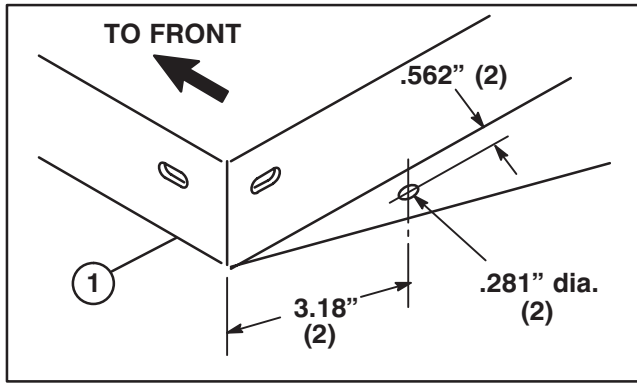

Figure 9
18. Using dimensions shown in figure 9, locate, mark and drill a .281" dia. hole in left rear end of bed. Repeat procedure on right rear end of bed.